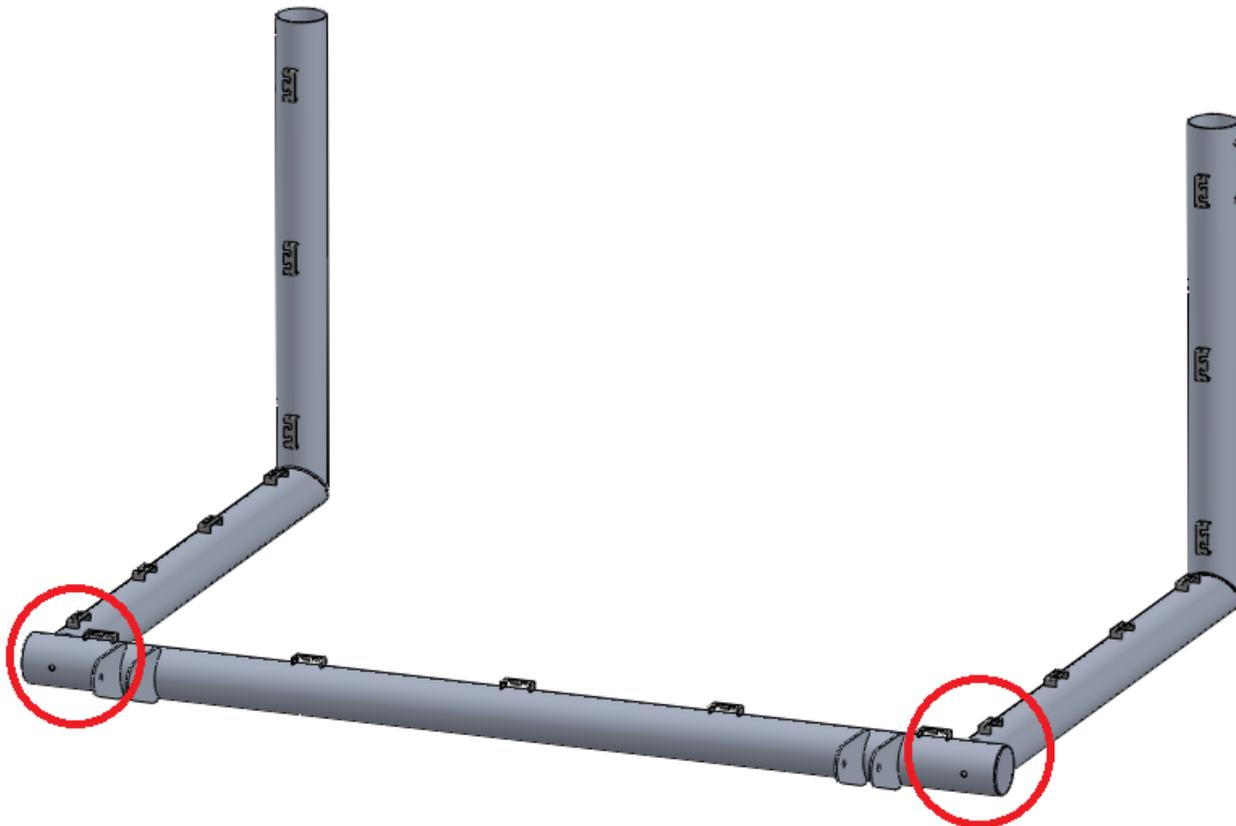

Figure 3
2. Align the side frames with the corresponding mount holes in the bottom crossbar shown in figure 3. Be sure that the sides were assembled so that the clips on the sides match the clips on the crossbar. Using the 3/8" x 5" bolts, with flat and lock washers, attach the side frames to the crossbar. **Note: Do not tighten hardware until all bolts are in place.**